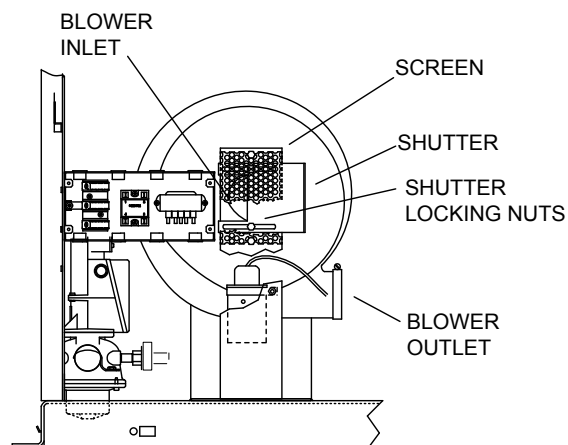

Figure 4.4
22. If the measured oxygen reading is below the oxygen range in Table 3, loosen the two bolts that secure the inlet air shutter to the unit using a 7/16" wrench (see Fig. 4.4). Open the shutter 1/4" to 1/2" to increase the oxygen level, then tighten the nuts.